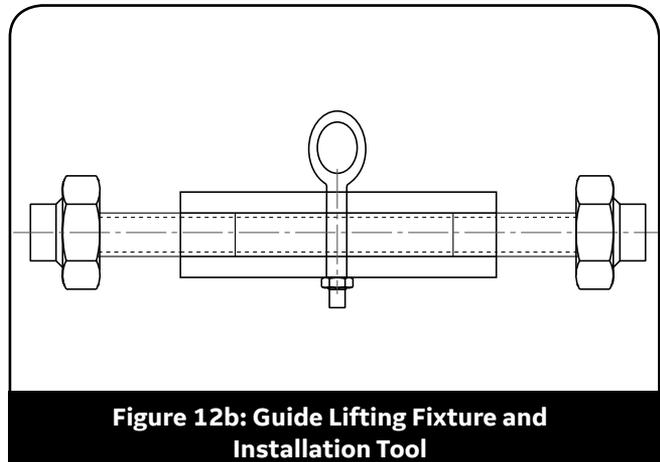

Figure 12b: Guide Lifting Fixture and Installation Tool
8. To remove the Main Guide (8), first remove the Upper Backing Ring (9) from the guide. Using the tool shown in Figure 12b (BHGE Part No. 4128201), rotate extension rods until tips extend fully into the upper backing ring groove. Each end of the engaging tips should be equally spaced from the center of the lifting eye. The guide can now be lifted out of body.
Lubricate the guide lightly with silicone. Install the guide assembly tool, Figure 12b in Section XV, and lower the guide into the valve body until it seats solidly within the body. Remove the assembly tool. Install the Upper Backing Ring (9).